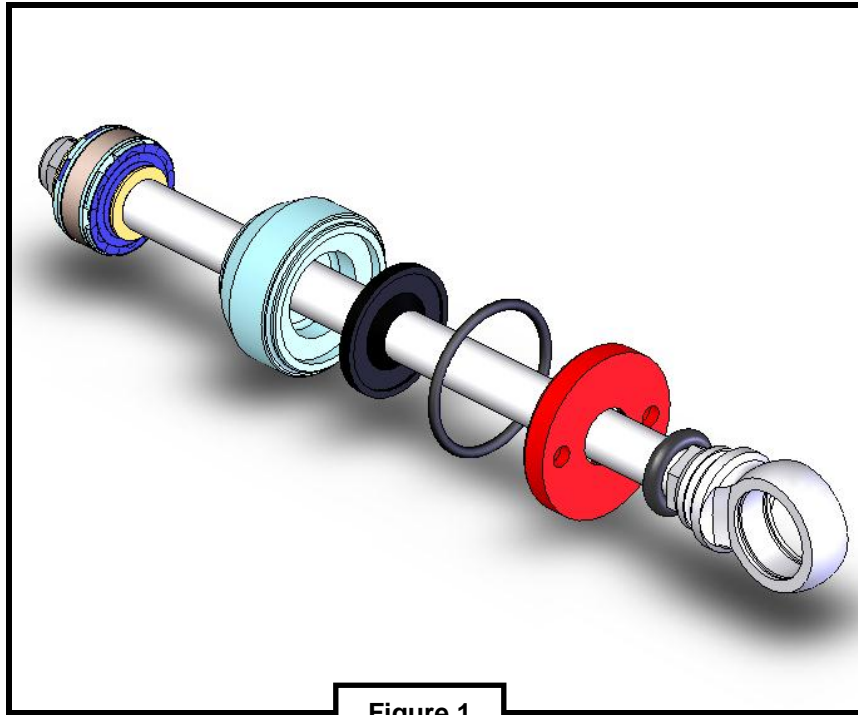

Figure 1
2. Reassemble the shaft with the travel indicator, closure nut with piston rod wiper installed, gland o-ring, piston rod seal, and gland assembly (see Figure 1).